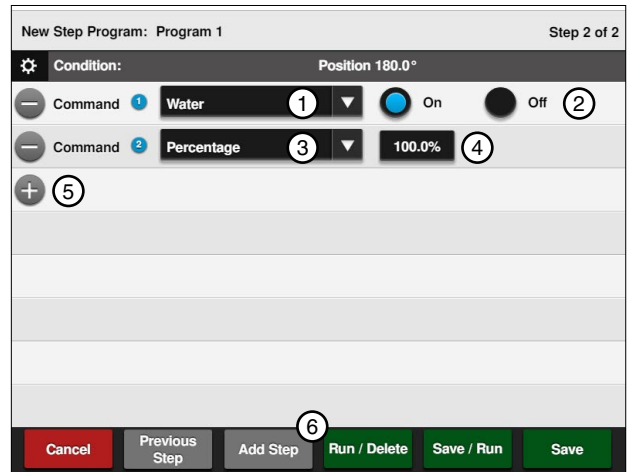

Figure 109-3 1. Water Command 4. Percent
6. Enter the commands to be executed at this position. Each command appears on the screen when entered. Refer to Figure 109-3.